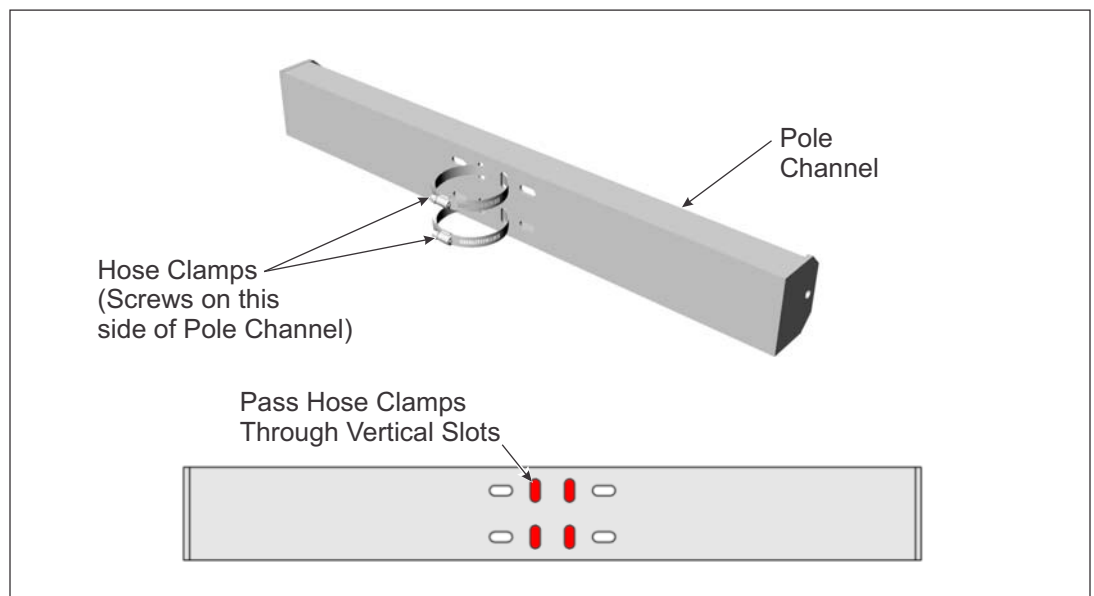

Figure 1-4: Installing Hose Clamps on Pole Channel
- A. Unscrew the two Hose Clamps and pass the loose ends through the two vertical slots of the Pole Channel, positioning the screw housing on the backside of the Pole Channel. Secure the loose end by screwing them back into their screw housing. Complete this process on both Pole Channels. (See Figure 1-4)